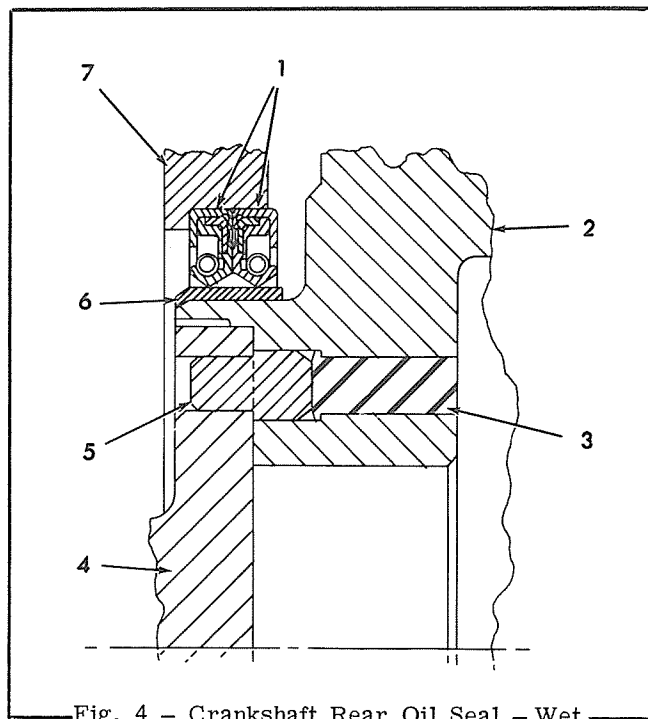
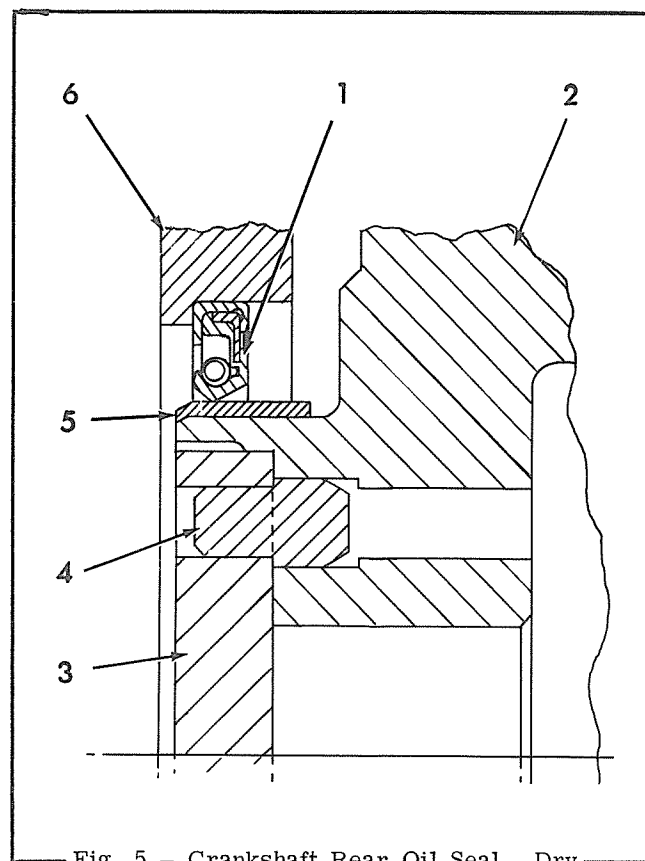

Fig. 4 - Crankshaft Rear Oil Seal - Wet
Fig. 5 - Crankshaft Rear Oil Seal - Dry
The crankshaft rear oil seal is a single lip seal. One seal, Fig. 5, is used in dry clutch applications. Two seals, Fig. 4, are used in wet clutch applications to prevent transfer of oil from the clutch housing to the engine crankcase.
NOTE: Although the M-100 motor grader has a wet clutch, only one seal, as shown in Fig. 5, is necessary because engine crankcase oil is used in the clutch. A wear sleeve on the flywheel seal flange, as shown in Figs. 4 and 5, is required with the seal(s).
- c. Refer to Fig. 4 or 5 for proper position of sealing lip and press or drive the seal(s), with an adequate seal installing tool, into the flywheel housing bore so it is seated against the seal stop in the bore on all 10000 and 11000 series engines equipped with flywheels having 1" long seal flanges.
- j. For double seal, wet flywheel housing applications, the crankshaft flange to flywheel positioning dowels must also be sealed to prevent oil transfer. This is accomplished with lead slugs, Fig. 4 (3). Insert them, pointed end towards the dowel, into the dowel hole of the flywheel, with the flywheel mounted on the crankshaft. Peen the slug to the inside of the dowel hole until the surface of the slug is flush with the flywheel.